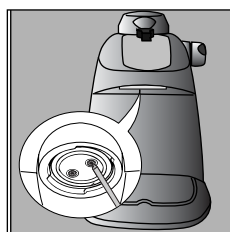

fig. 19
- using a screwdriver, unscrew the two screws that hold the outlet of the espresso boiler (fig. 19);